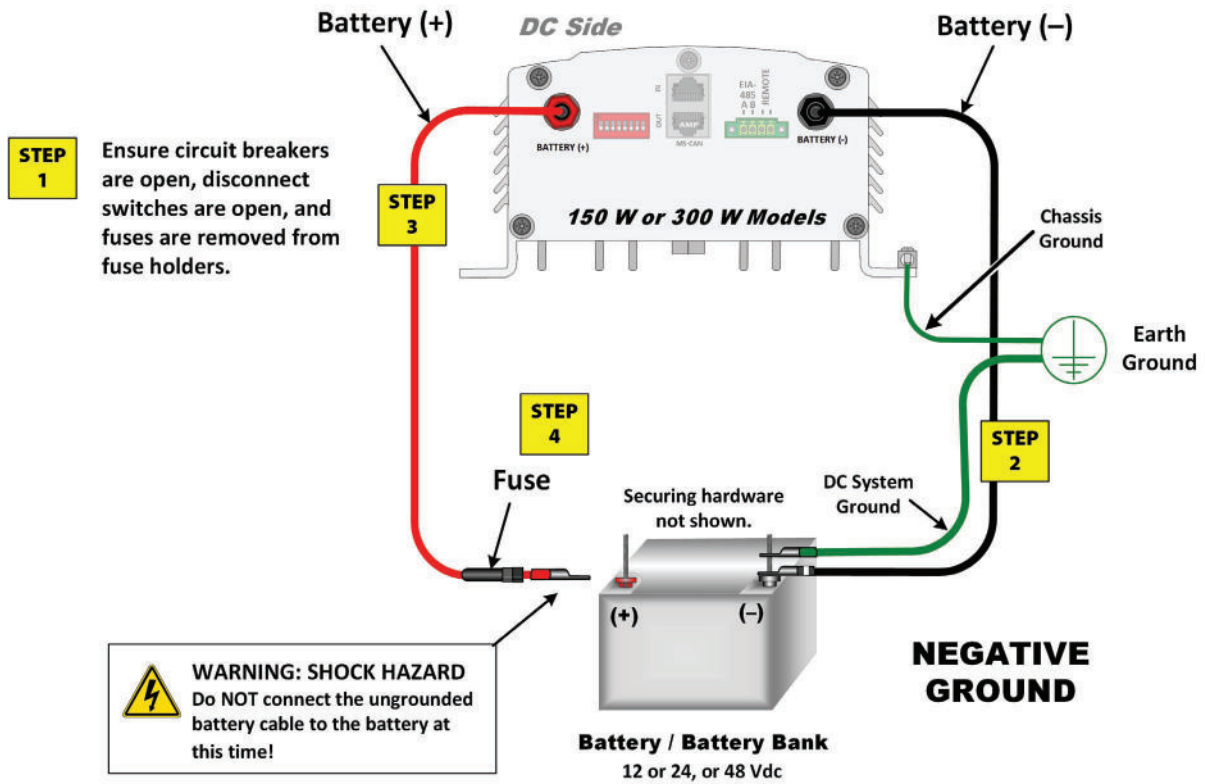

Figure 16: DC Connections on 150 W & 300 W Models with Negative Grounding
- **For 150 W & 300 W Models:** See Figure 16 on page 24